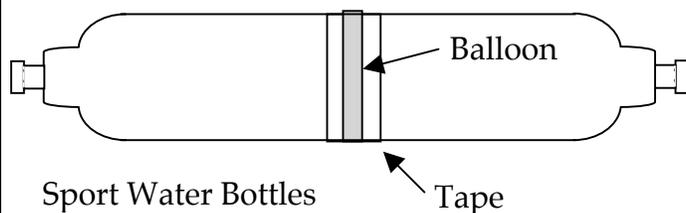

Figure 4.7
Figure 4.7 shows an air capacitor with both sides open to the atmosphere through a tube in each side. There is atmospheric pressure in each side, which we will call NORMAL air pressure.
3. Release both ends of the air capacitor to normal atmospheric pressure. Then place your mouth over the tube at the other side of the air capacitor and inhale; hold the depletion inside by closing the tube. Draw a new sketch of the air capacitor next to Figure 4.7, and label the pressure in each side as NORMAL or HIGH or LOW. Explain why the membrane between the two sides changes shape.